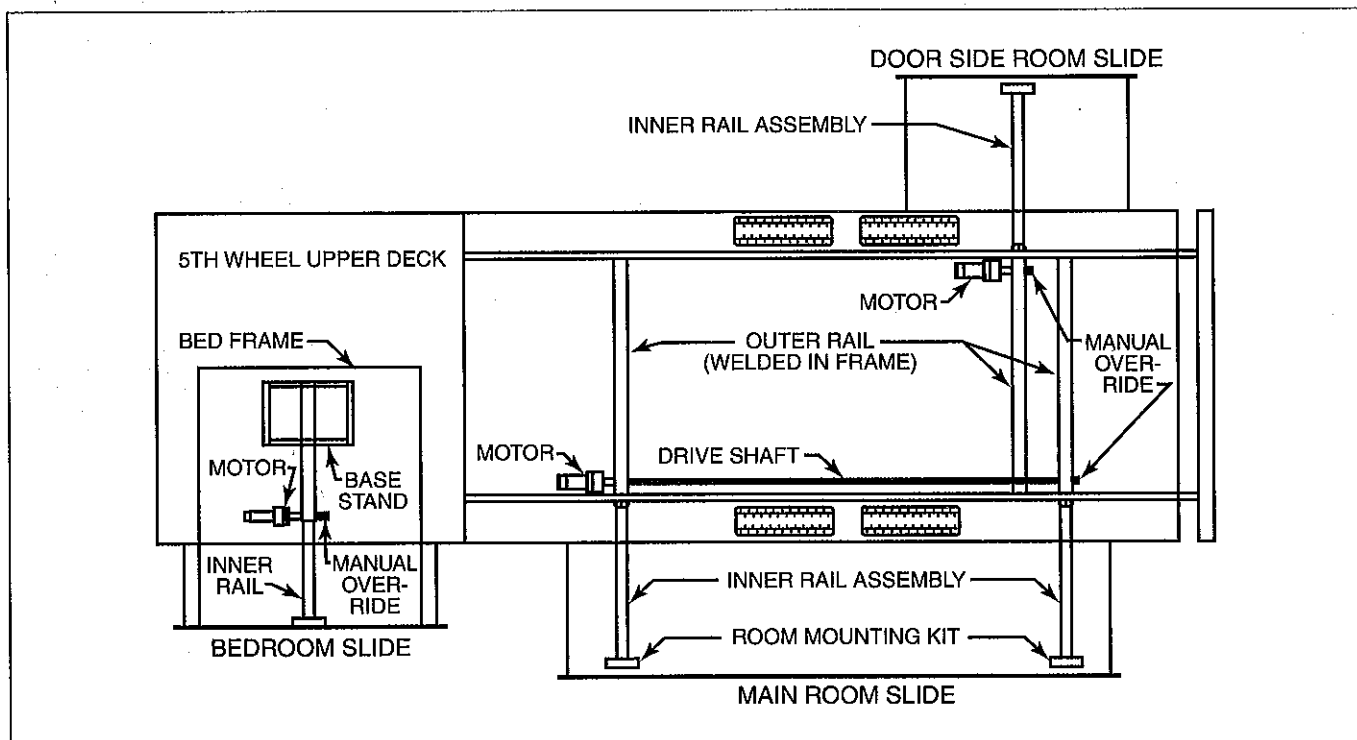

Figure 1 – Underfloor System Layout
The procedure for manually retracting the slide-out room is the same for a main slide-out or doorside slide-out. See Figure 1 to locate the drive motor assembly for each slide-out room (if installed).
2. If the trailer has an underbelly locate and remove the access panel for the motor. Typically, the motor will be just inside the trailer chassis main rail (Figure 1).
5. The room is now free to move. If the trailer has an underbelly, locate the access panel for the manual override. See Figure 1 for locations.